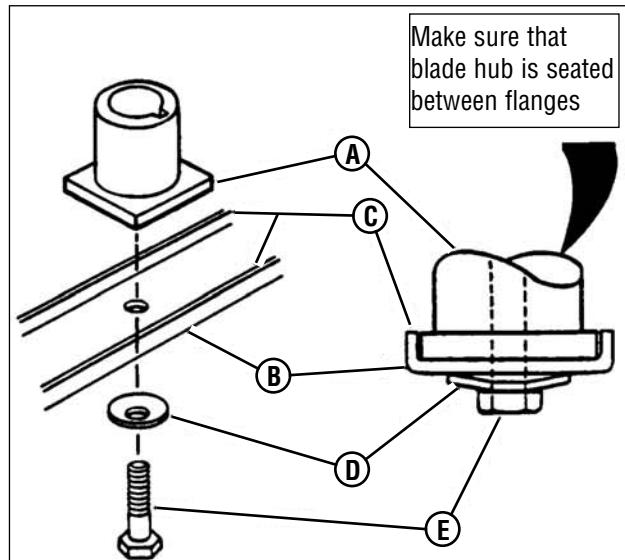

Figure 16: Removing the mower blade
3. Remove the blade (**B**, **Figure 16**).
6. Reinstall blade (**B**, **Figure 16**). Note the correct assembly order:
- (A) Blade hub
- (B) Blade
- (C) Blade flange (facing up)
- (D) Cone washer (concave side up)
- (E) Capscrew